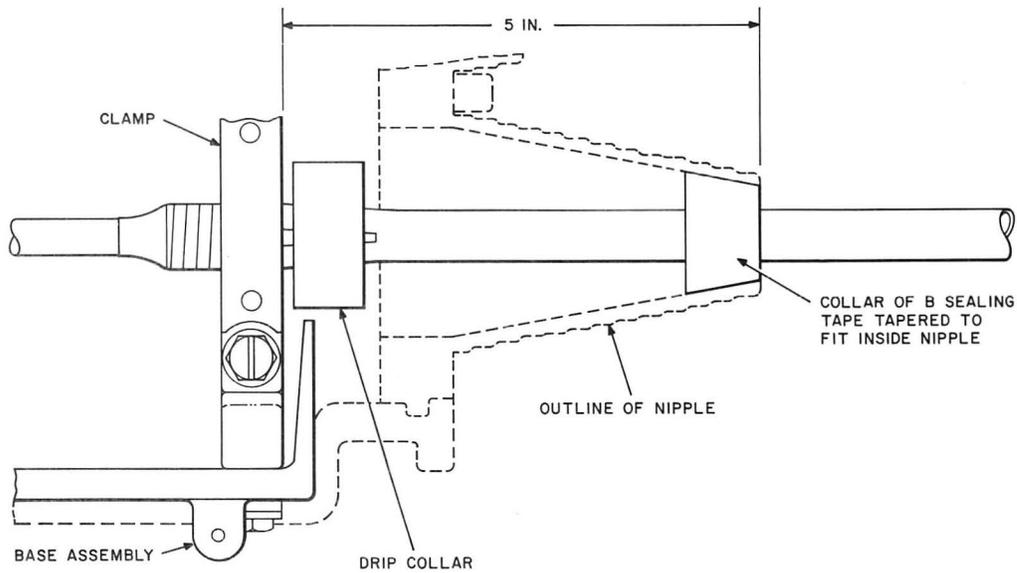

Fig. 33—Cone-Shaped Collar Installed on Cable
- 6.09 When using the 1B1 or 1C1 Closure and the cable is less than 1 inch in diameter form a cone-shaped collar as shown in Fig. 33 to seal off the space between the cable and the nipple.